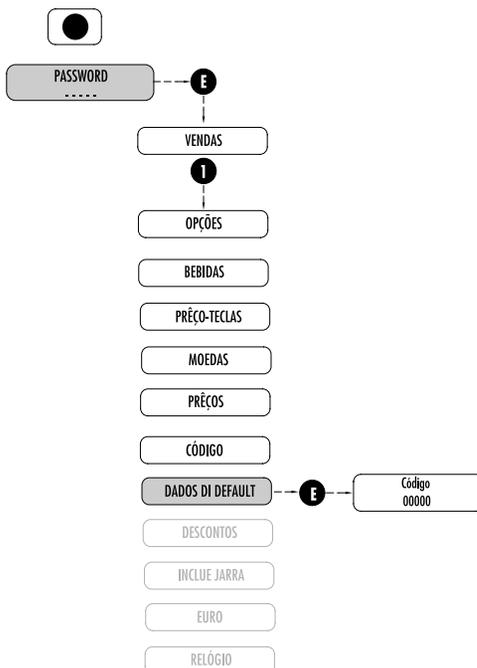

Fig. 7.11
7.2.8 DADOS DI DEFAULT (Fig.7.11)